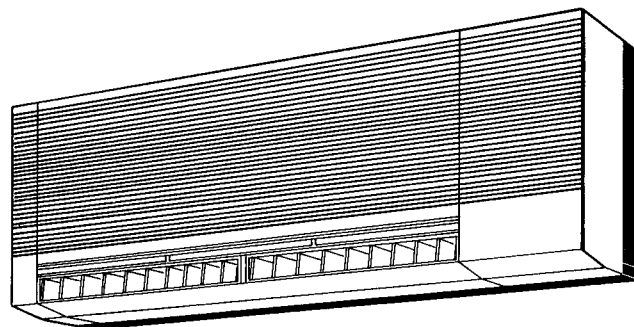

Fig. 1 — 619B High Wall Fan Coil Unit
The 619B(E) high wall fan coil unit (see Fig. 1) is installed with the 594C outdoor condensing unit, and the 619B(W) unit is installed with the 694C heat pump. Refer to Table 1 to make sure the correct indoor unit is installed with the correct outdoor unit.
Upon receipt of shipment check unit (Fig. 1) for damage. Forward claim papers directly to the transportation company. Manufacturer is not responsible for damage incurred in transit.